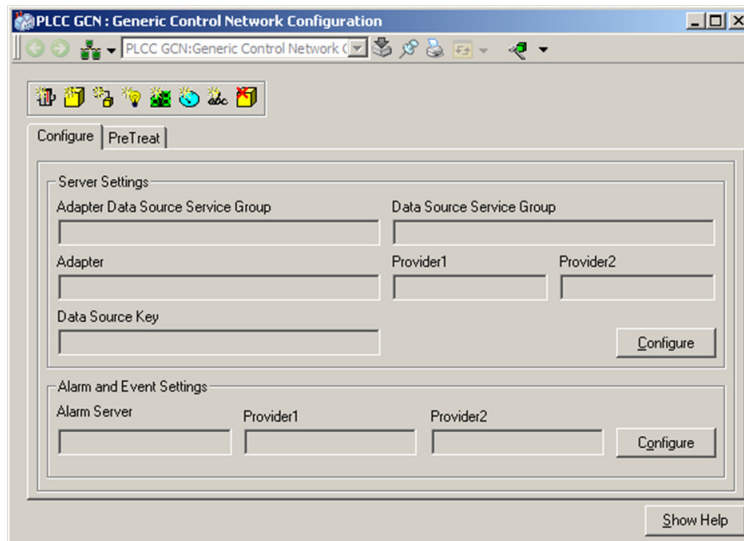

Figure 9. Generic Control Network Configuration Aspect
7. Click the **Configure** tab in the Preview Area to produce the view shown in Figure 9.